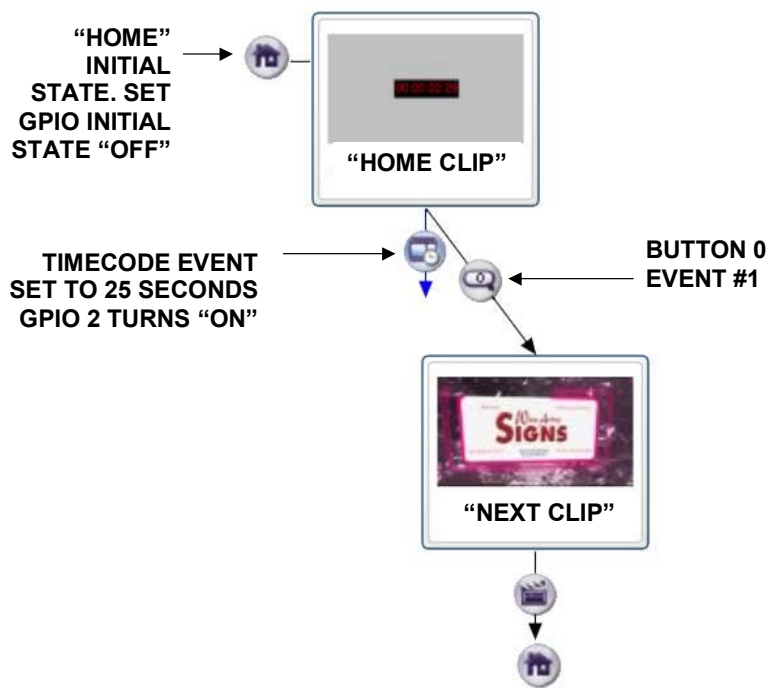

FIGURE 3.5
Timecode events have no path as shown in Figure 3.5. The goal of this BrightAuthor presentation is to ensure uninterrupted viewing of the "HOME" clip for the first 25 seconds. After 25 seconds has elapsed, button 0 is enabled (ON) allowing the presentation to transition to the "NEXT CLIP" when motion is detected. Otherwise, "HOME CLIP" will loop.